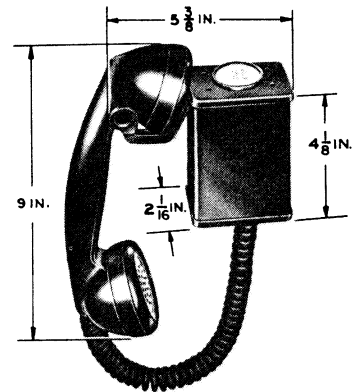
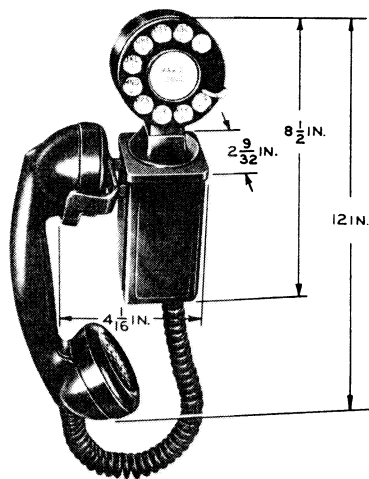

Fig. 4 — Manual Hang-up C-type Set
Fig. 7 — Dial Hang-up G-type Set
5.02 The C-type mounting shown in Fig. 4 and 5 provides rotating adjustment to position the dial with respect to the user. The G-type mounting shown in Fig. 7 provides both rotating and tilting adjustments for positioning the dial.